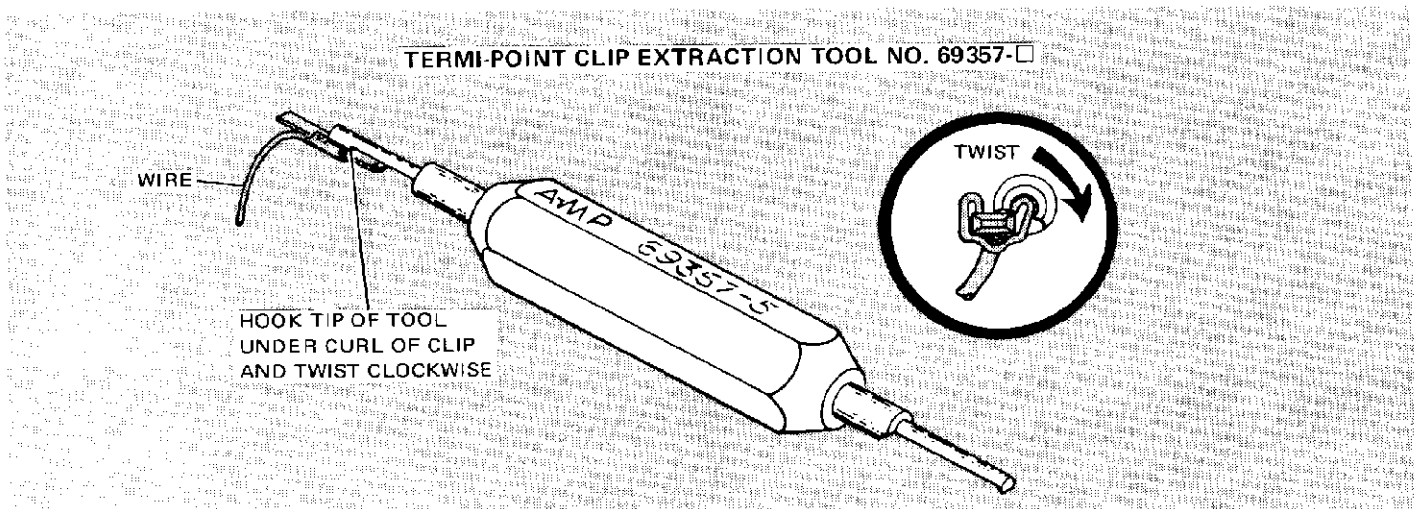

Figure 4
- (b) Twist tool in clockwise direction away from open portion of TERMI-POINT clip until clip is free. See Figure 4.